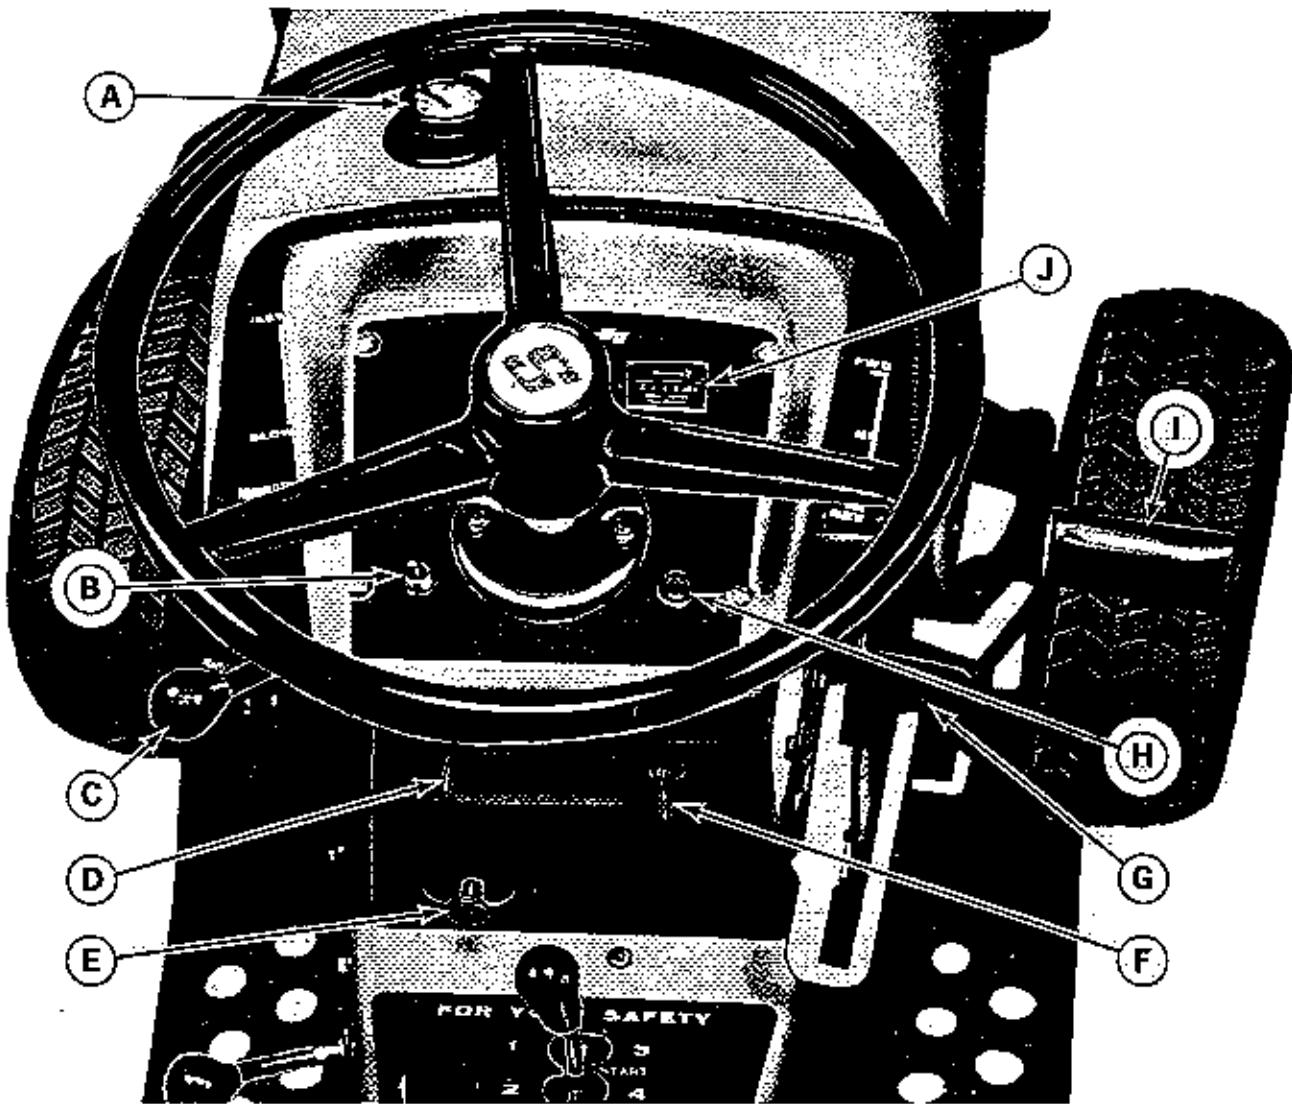

Figure 1. Tractor instrument panel as seen from the operators position on tractor seat.
Picture yourself seated on your Simplicity tractor. Before starting the engine, lets learn how to understand and use the instruments and controls. The paragraphs referring to the instruments and controls are illustrated in figures 1 through 4.
IGNITION SWITCH: (Figure 1, item F) To actuate the ignition switch first insert the ignition key as shown. When the key is turned clockwise to the first position, the ignition is ON. In the ON position the lights, hourmeter, etc. will operate. Turn the key clockwise past the ON position to the START position to actuate the starter. **THE TRANSMISSION SHIFT LEVER MUST BE IN THE NEUTRAL POSITION AND THE POWER TAKE OFF CLUTCH CONTROL LEVER (S) MUST BE IN THE DISENGAGED POSITION BEFORE THE STARTER WILL ACTUATE.** Release the
CHOKE CONTROL KNOB: (Figure 1, item E) The choke control knob may be pulled out to increase the amount of fuel entering the engine for starting and cold weather warmup. When starting a cold engine in cold weather pull the choke all the way out. Some choke may be required to start the engine when the air temperature is above 70 degrees F or while the engine is still warm from being recently run. After the engine has started, push the choke in slowly. In cold weather it may be necessary to leave the choke pulled out slightly for three or four minutes while the engine warms up. **NEVER OPERATE THE ENGINE WITH THE CHOKE OUT AFTER IT HAS HAD SUFFICIENT TIME TO**
GENERATOR WARNING LIGHT: (Figure 1, item H) The generator light will warn you if the generator or voltage regulator on your tractor is not functioning properly. It is normal for the generator light to come on when the ignition switch is in the ON position and the engine is stopped or running at low speed. The light should go out when the engine is running at higher speeds. If it does not the generator or voltage regulator is not functioning properly. Check the generator belt adjustment as described on page 13. See your Simplicity dealer if the light will not go out after the belt is adjusted.
HOURMETER: (OPTIONAL) (Figure 1, item J) The hourmeter is useful in keeping accurate maintenance records and telling how much time the tractor has been used on a particular job. It operates anytime the ignition is turned on whether the engine is running or not.
FUEL GAUGE AND FILLER CAP: (Figure 1, item A) The fuel gauge indicates fuel level. **BEFORE ADDING FUEL, SHUT OFF THE ENGINE AND ALLOW IT TO COOL SEVERAL MINUTES.** Turn the cap counter-clockwise to remove it and add fuel. The 3 gallon capacity provides about 3 hours of mowing. Use leaded or non-leaded **REGULAR** grade automotive gasoline. **CAUTION: DO NOT ALLOW LIGHTED CIGARETTES, MATCHES, ETC., AROUND ANY OPEN GASOLINE CONTAINER. DO NOT OVERFILL; WIPE UP ANY SPILLED GASOLINE.**
LIGHT SWITCH: (OPTIONAL) (Figure 1, item D) The switch should be moved up to the ON position to turn on the tractor lights. To prevent the lights from being turned on by unauthorized persons, the ignition switch must also be in the ON position for the lights to operate. To turn the lights off, push the light switch down to the OFF position. **DO NOT OPERATE THE LIGHTS FOR LONG PERIODS OF TIME (MORE THAN 20 MINUTES) WHEN THE GENERATOR LIGHT IS ON OR THE BATTERY MAY DISCHARGE ENOUGH SO IT WILL NOT START THE ENGINE.**
POWER LIFT SWITCH: (OPTIONAL) (Figure 1, item B) The power lift switch controls the electrically operated power lift unit. Push the toggle switch forward to raise a front, center or rear mounted attachment. Pull it back toward you to lower the attachments. The power lift will stop and hold in any position when you release the toggle switch. The height indicator (Figure 6, item A) on the left side of the tractor shows attachment position. The lift motor will ratchet when it has reached the end of its travel. Ratcheting is not harmful to the unit, but releasing the toggle switch as soon as ratcheting begins will prevent unnecessary wear. If the motor is allowed to ratchet for an extended period of time, a circuit breaker will open, disconnecting power to the lift motor. It will automatically reset after about a minute.
CLUTCH AND BRAKE PEDAL: (Figure 1, item I) Depressing the pedal will first disengage the tractor drive clutch. As you continue to depress the pedal, the brakes will
be applied to stop the tractor. The clutch-brake pedal may be depressed for shifting transmission gears, but it is not necessary if the shuttle drive control lever (Figure 1, item G) is in the neutral position.
SHUTTLE DRIVE CONTROL LEVER (Figure 1, item G) The position of this lever determines whether the tractor moves forward or reverse or remains stationary. It can also be used for short periods of time to reduce tractor travel speed in either forward or reverse, or used to stop tractor travel by pulling it toward the opposite position.
Although the tractor may be shifted into or out of any gear by depressing the clutch-brake pedal, it may be shifted more rapidly by placing the shuttling control lever in the center NEUTRAL position as shown in figure 1. The brake which is automatically applied when this lever is in neutral, stops "spinning" of the transmission input shaft to facilitate shifting.
SPEED CONTROL LEVER: (Figure 1, item C) The engine speed control lever is used to set the desired engine speed. The speed control lever should be moved forward away from the operator to increase engine speed or back toward the operator to reduce engine speed. Consult the appropriate section of this manual for specific information on suggested settings of the engine speed control lever. For example: starting the engine, page 5. Controlling tractor ground speed page 5, and the Operation Chart on page 7.